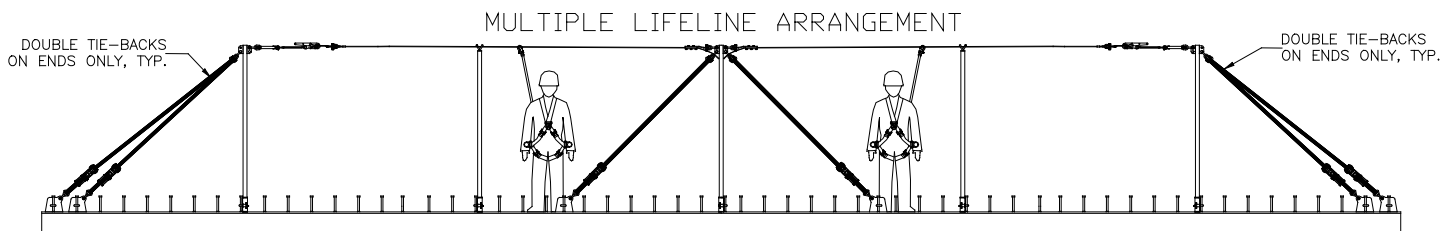

Fig. 11 Layout of a Multiple Lifeline System
The above procedure describes the method for installing a single horizontal lifeline. It is also possible to install a continuous run of multiple horizontal lifelines that share common end stanchions provided they are installed in a generally straight line with one another (see Figure 11). The two outermost end stanchions besides the regular tie-back must have an extra (backup) tieback installed at each end of the total lifeline run to guard against catastrophic failure of a shear stud to which the tie-back is attached. For end stanchions located in the center of the lifeline run (where a lifeline will be attached on both sides of the stanchion), the horizontal lifelines should be attached to the top holes of the end stanchion. A single tie-back strap is then attached to the bottom hole of the stanchion. These tie-back straps are secured to the Shear Studs in the same manner as outlined above, making sure that the bracket is both properly sized for the stud that it will attach to and that it is attaching to a Shear Stud that allows for the correct minimum distance between the Stanchion Bracket and the Tie-back Bracket as appropriate for the height of stanchion being used (60-in. minimum spacing for a 5-ft. tall stanchion, 72-in. for a 6-ft. stanchion, and 84-in. for a 7-ft. stanchion). These tie-back straps should be evenly tensioned to ensure that the stanchion is kept vertical. Only an end stanchion that has a horizontal lifeline attached to both sides is allowed to have a single tie-back. Should one of the lifelines be removed from one of these central lifelines, a second tie-back must immediately be attached to the stanchion on the side opposite the lifeline BEFORE the lifeline may be used. Please contact Reliance Engineering at (303) 424-8650 with any questions concerning the arrangement or installation of horizontal lifeline equipment.